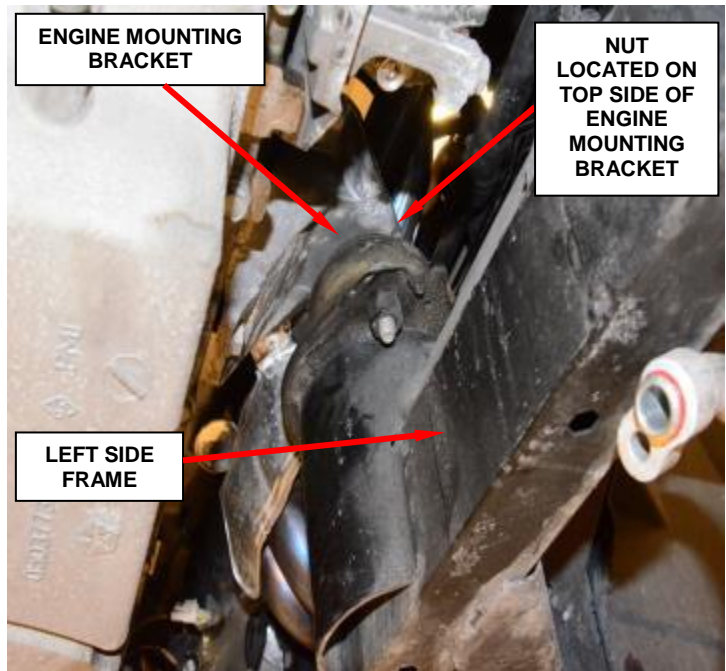

Figure 46 – Engine Mount Bracket Nuts (Left Side Shown)
55. Remove the left and right engine mount to engine mount bracket nuts (Figure 46).
4. Install the engine mount isolator nuts and tighten to 45 ft. lbs. (61 N·m) (Figure 46).